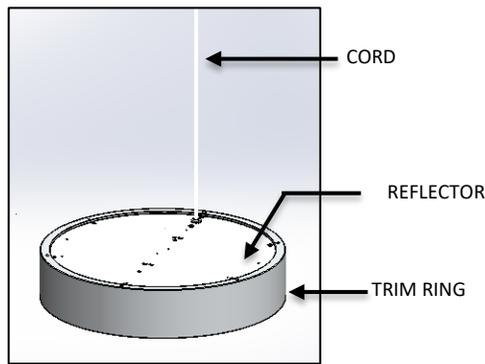

FIG.2 TRIM RING
1. TRIM RING. (Pre-assembled with reflector and cord as shown in FIG. 2)